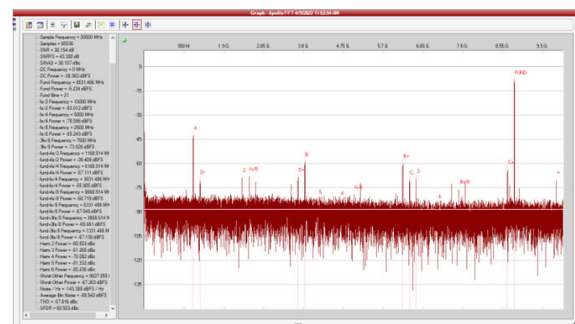

Figure 72. Selecting the Saved Data in Pattern Loader in the VisualAnalog Canvas
- ▶ The captured data post processes and displays in the **VisualAnalog** canvas as shown in Figure 72.